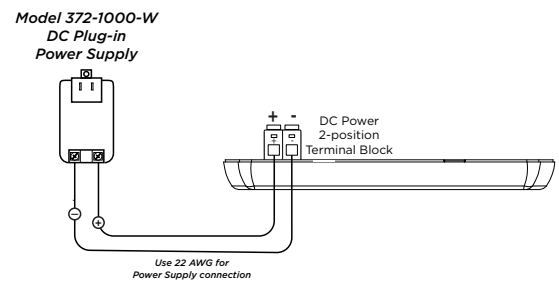

Figure 2: DC Plug-In Power Supply
2. Connect the DC terminal (-) to the negative terminal on the power supply. See Figure 2.